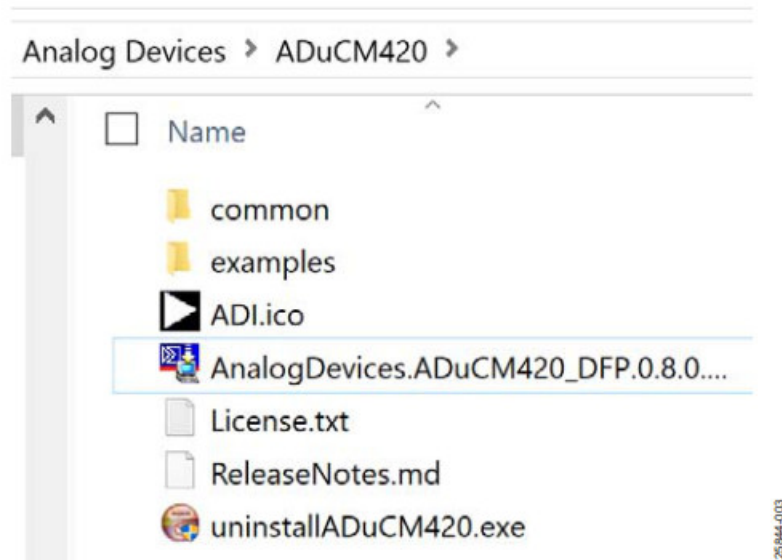

Figure 5. ADuCM420 **examples** Folder with Projects
3. After installation, the \AnalogDevices\ADuCM420 folder opens. This location contains the examples folder that stores the example codes for the ADuCM420 (see Figure 5).